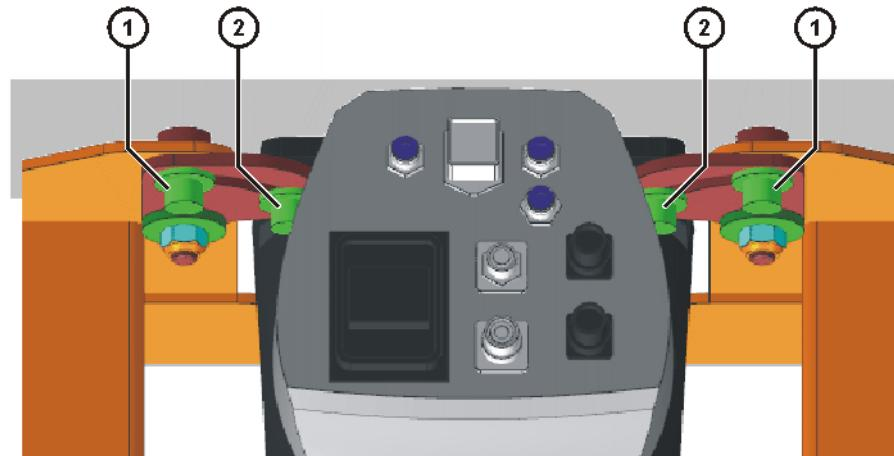

Fig. 8-13: Removing screws from the rear
13. Unscrew 2 M12x30 Allen screws (rear Allen screws) and washers from the rear of the base frame (**>>> Fig. 8-13**).